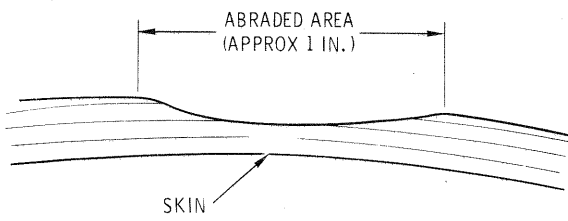

FIGURE 4
a. Remove loose resin and paint from blade surface around cracked area. Abrade surface to approximately one-half inch on both sides of crack, using 100 grit sandpaper. Exercise care not to cut through the intact part of the fiberglass skin. (See Figure 4.)